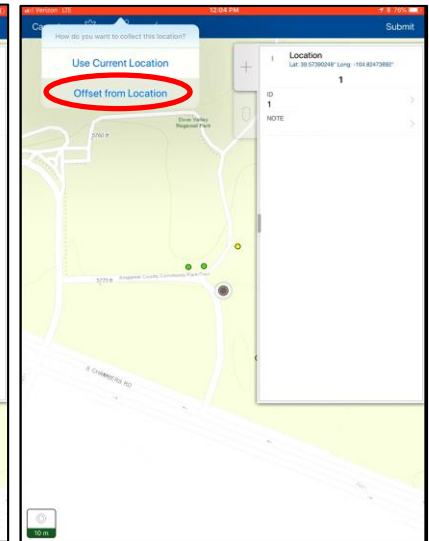

Figure 8
8. Select **Offset from Location** (Figure 8) and this will start the Eos Tools Pro app